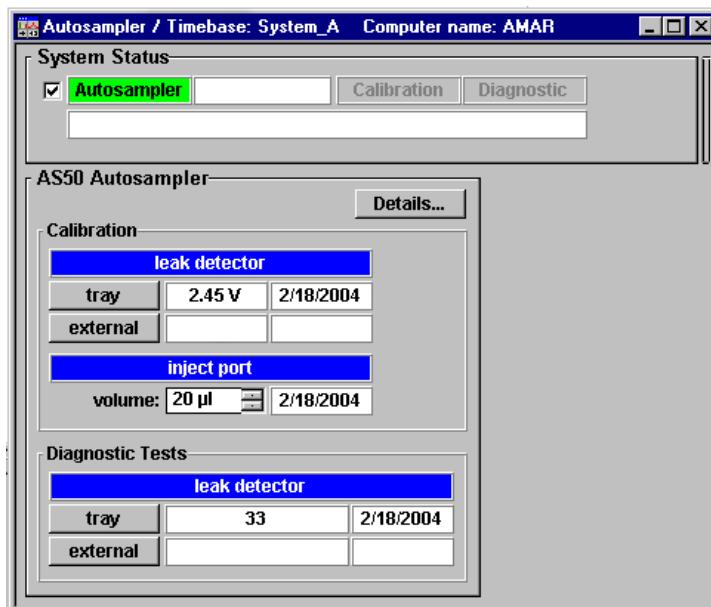

Figure 5-27. Chromelone Wellness Panel
4. Open the **Control** menu and click **Connect to Timebase**. Connect to the timebase in which the AS50 is configured. When connected, the controls on the Wellness panel are enabled (see Figure 5-27).